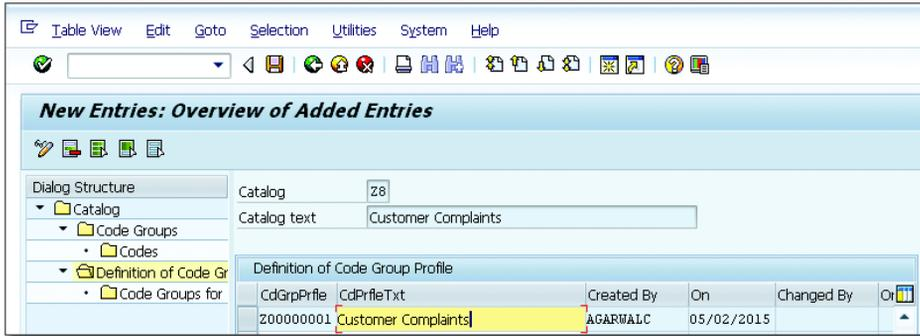

Figure 4.105 Definition of the Code Group Profile
5. Create the code group profile (CdGrpPrf1e) for the CATALOG Z8, as shown in Figure 4.105.